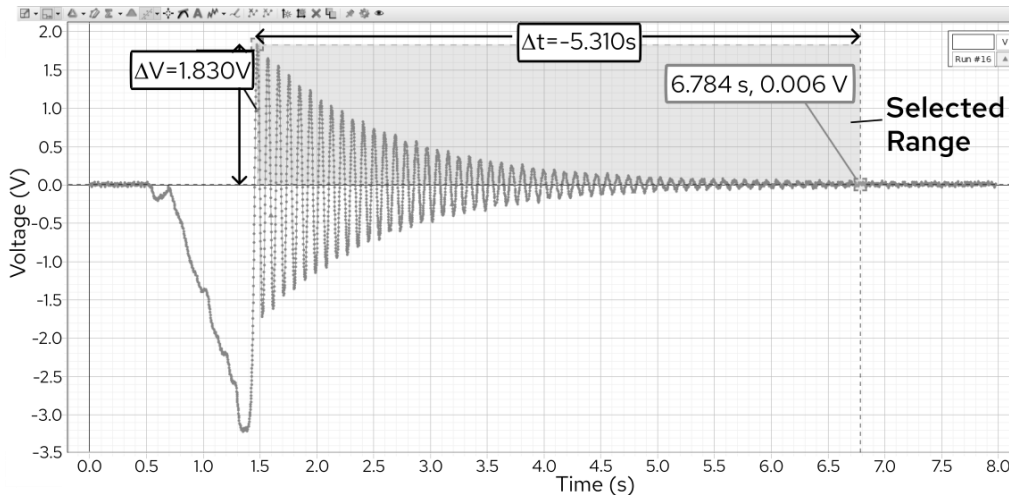

Figure 9. Sample recording with magnet near the blade.
- The time difference as well as the voltage difference show up in the middle of the guide lines created by the dragging action (Fig. 9).
- Use the Show Delta Tool to measure the original amplitude (1.830 V in Fig. 9).
- Calculate half the original amplitude, and use this to determine the damping time  $\tau$ . In Fig. 9, the initial amplitude is 1.830 V, so you would find an amplitude of  $\pm 0.915V$  to measure  $\tau$ .